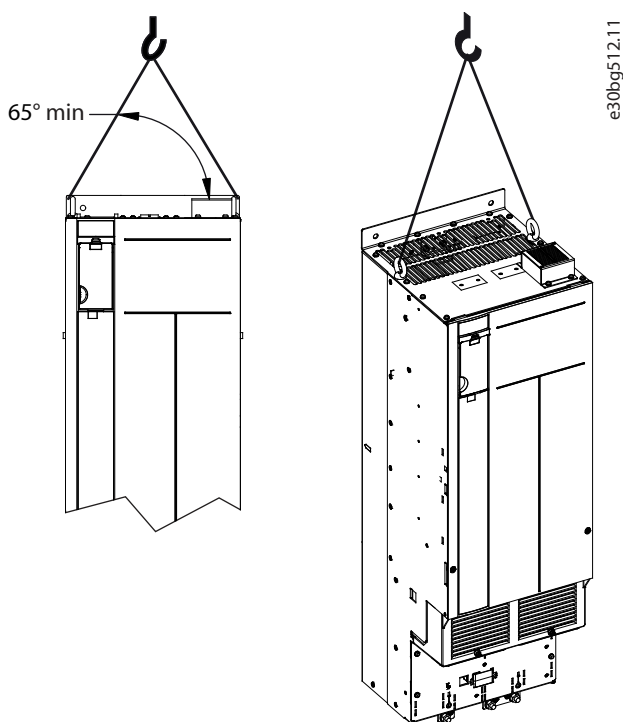

Figure 41: Lifting the Drive
- The angle from the top of the drive module to the lifting cables affects the maximum load force on the cable. This angle must be 65° or greater. Refer to Figure 41. Attach and dimension the lifting cables properly.
Always lift the drive using the dedicated eye bolts at the top of the drive. See Figure 41.